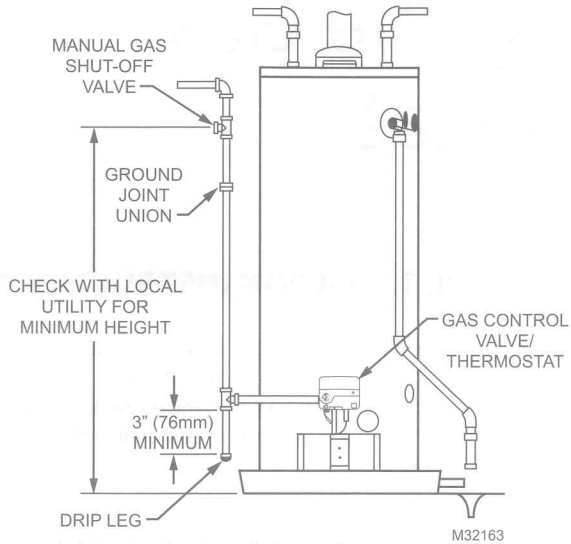

Fig. 1. Gas Piping.
1. To avoid dangerous accumulation of fuel gas, turn off gas supply at the appliance service valve before servicing. The gas supply valve is typically located beside the water heater. Note the position of the shut-off valve in the open/on position then proceed to turn it off. (See Figure 1)
8. Disconnect the ground joint union in the gas piping. Disconnect the remaining pipe from the gas control valve/thermostat (See Figure 1).